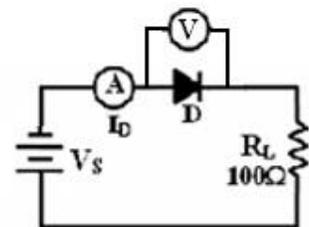

Figure 8.
- 1- Reverse the polarity of the DC power source (V_S) as shown in Figure 8.